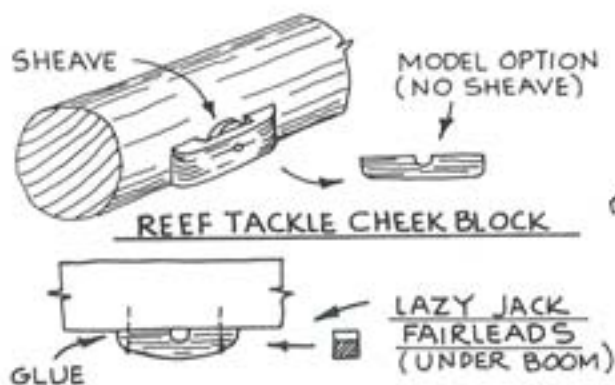

FIG 54
**Cheek blocks and fairleads** — See Figure 54 for the main boom reef tackle cheek blocks and lazy jack fairleads.